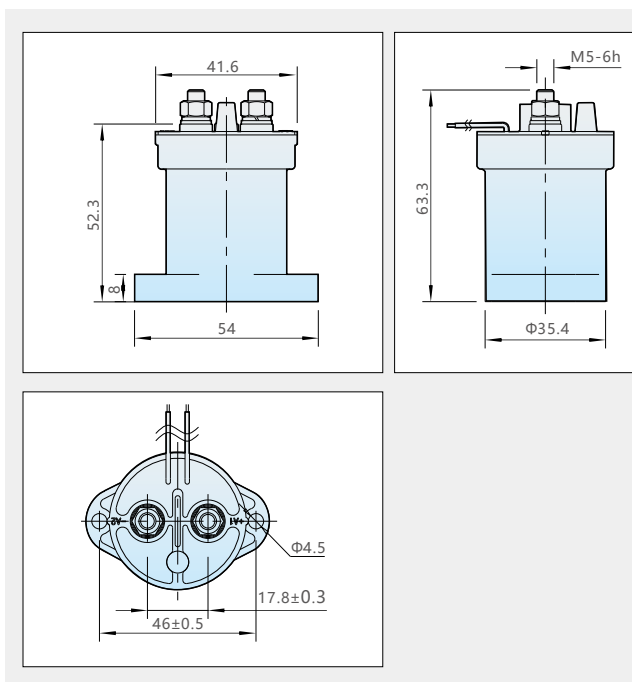

Fig10
(2) Outline drawings and installation dimensions diagrams of NCZ2-100 are shown in Figure 9 and Figure 10